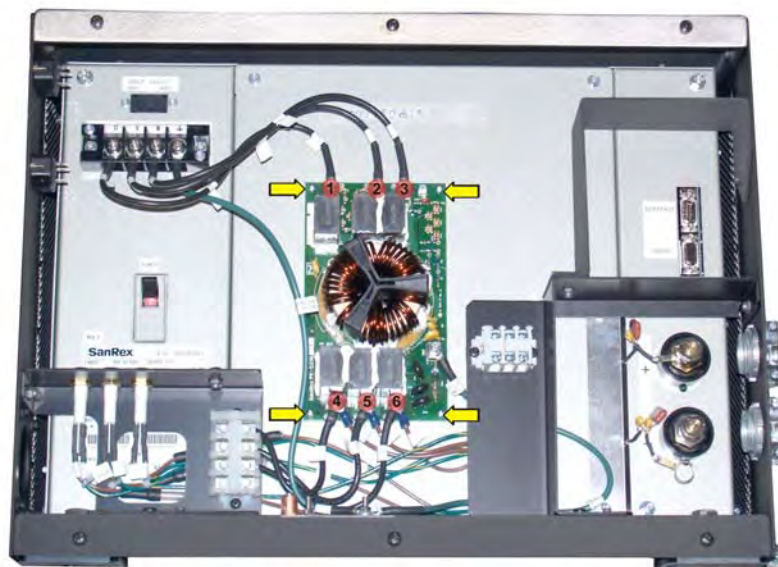

Figure 5-71 Remove Line Filter
3. Using a #2 Phillips™, remove the six screws securing the 10 harnesses on the line filter. **(Figure 5-71)**
5. Using a #2 Phillips™, remove the four screws securing the line filter to the LPS. **(Figure 5-71)**